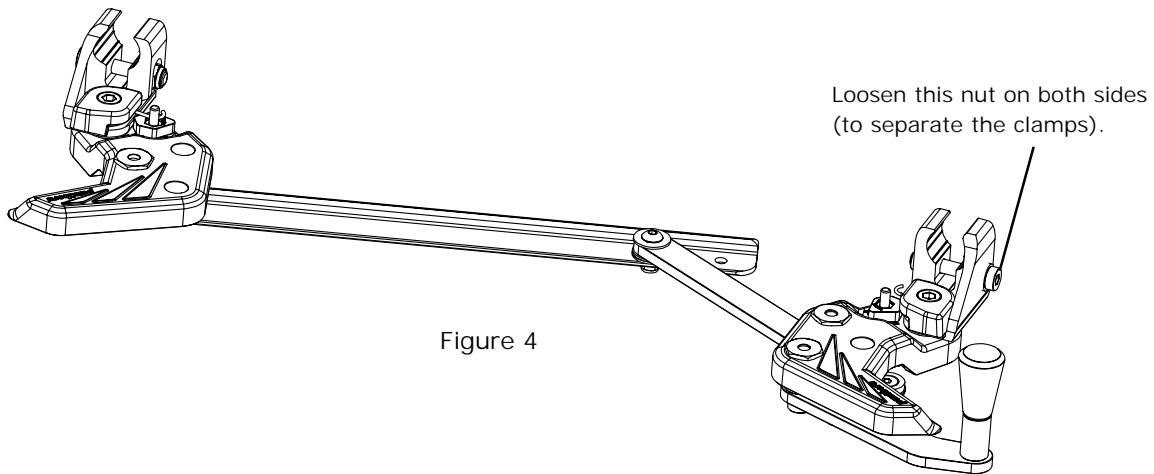

Figure 4
2. First loosen the fastening screw to enable you to separate the fastening clamps. You can do this with the enclosed T-key. See figure 4.